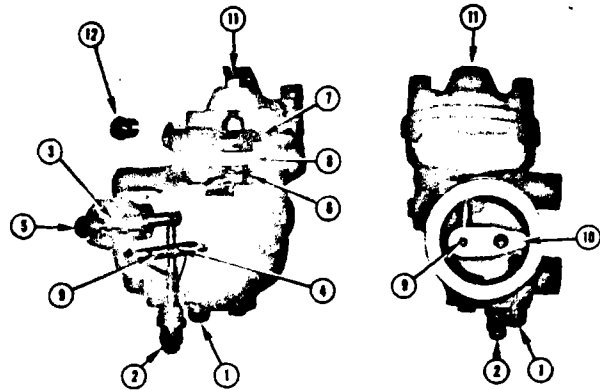

Fig. 5-10, (F-5244). Aneroid cutaway
The aneroid control, Fig. 5-10, provides a fuel by-pass system that responds to air manifold pressure and is used on turbocharged engines for close control of exhaust smoke.
1. Fuel from the fuel pump enters the aneroid and is directed to the starting check valve area (5, Fig. 5-10).
2. The starting check valve (3) prevents the aneroid from by-passing fuel at engine cranking speeds. For speeds above cranking, fuel pressure forces the check valve open, allowing fuel to flow to the valve port (4) of the shaft (9).
3. The shaft (9) and its bore form a fuel by-pass valve. This shaft and bore allows passage or restricts the fuel flow.
4. The shaft and sleeve are by-passing fuel when the arm (10) of the lever is resting against the adjusting screw (1). The amount of fuel by-passed is adjusted by this screw, which protrudes from the bottom of the aneroid.
5. The lever arm connected to the piston (8) by the actuating shaft (6), rotates the shaft, closing the valve port. The lever is rotated by the action of the air intake manifold pressure (11) against the piston and diaphragm (7), moving the actuating shaft downward against the resisting spring force.
9. Fuel allowed to pass through the by-pass valve is returned (2) to the suction side (inlet fitting) of the PT gear pump. The by-passed fuel reduces the fuel pump output to the engine and reduces the fuel manifold pressure in proportion to the by-pass rate.